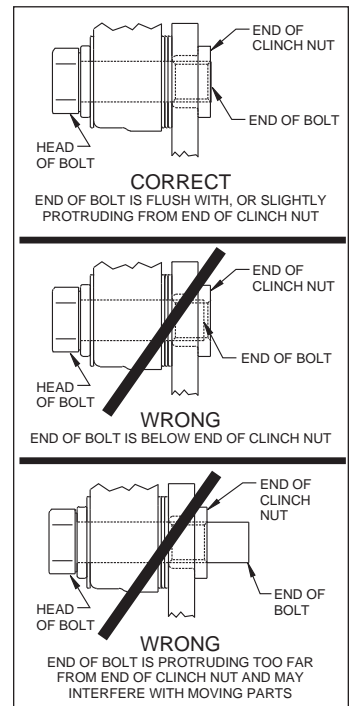

Figure 3. Clinch Nut Engagement Diagram
Assembly Instructions (numbers in parenthesis refer to the parts list, on the preceding page and Figure 1): **CAUTION:** All mounting bolts must fully engage clinch nuts. Be sure to check that all bolts are either flush or protruding through flanged side of clinch nut after shimming, Figure 3.
- NOTE:** Please reference the caution statement at the beginning of the assembly instructions. Mount the caliper (20) onto the caliper mounting bracket (1) using bolts (21) and washers (22), as shown in Figure 1. Initially place two .035" thick shims (23) on each bolt between the caliper and the bracket, Photo 8. Temporarily tighten the mounting bolts and view the rotor (13) through the top opening of the caliper. The rotor should be centered in the caliper, Photo 9. If not, adjust by adding or subtracting shims between the bracket and the caliper. Always use the same amount of shims on each of the two mounting bolts. **NOTE:** The end of each bolt must be flush with or slightly protruding from the head of the clinch nut, as shown in Figure 3. If necessary place spare shims between washer (22) and caliper mounting ear to achieve the proper clinch nut engagement. Once the caliper alignment and clinch nut engagement are correct, remove the bolts one at a time, apply red *Loctite*® 271 to bolt threads, and torque to 40 ft-lb.